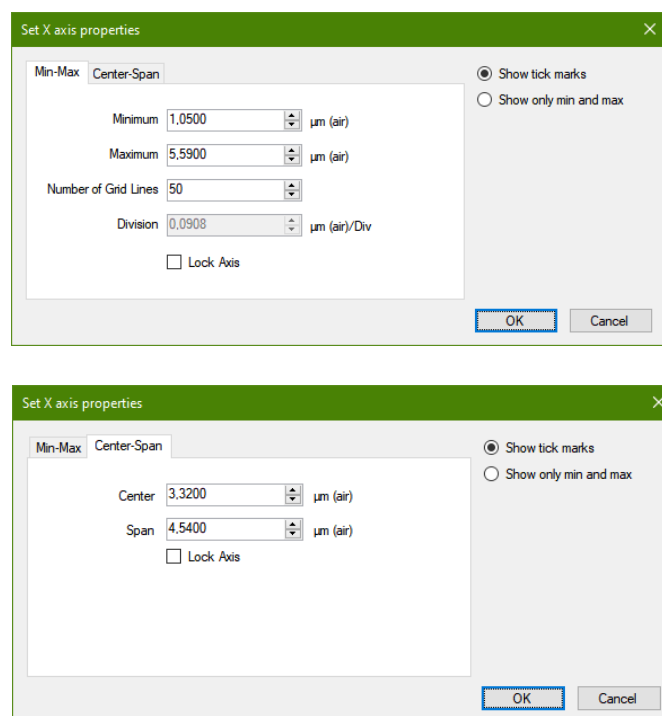

Figure 3. Axis Properties Dialog Opened for the Horizontal Axis
The horizontal display range can be set more precisely by typing in a desired minimum and maximum value in the two text boxes found under the Display menu. The horizontal display range can also be set by clicking on the horizontal axis itself, which will bring up a dialog box (see Figure 3) in which the minimum and maximum values and division, or alternatively the center value and span, can be set.
The vertical axis can also be set manually by clicking on the (primary or secondary) vertical axis itself. This will bring up a dialog box, (similar to the one shown in Figure 3) in which the minimum and maximum values and division, or alternatively the center value and span, can be set.
- The range of the primary and secondary axes can be set individually by clicking on (the gray part of) the axis which brings up the Axis Properties dialog (see Figure 3) for the selected axis. Note that the grid density is always the same for the primary and the secondary axes; changing the grid density on one axis will change the grid density on the other.
- The primary and secondary axes can be locked individually to any desired range by checking the “Lock Axis” check box in the corresponding Axis Properties dialog (see Figure 3).